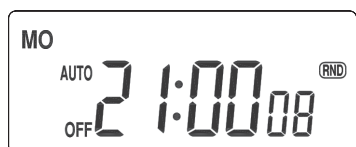

Fig. 5
2. Click OK button, the timer enter random switching function as show in Fig. 5.